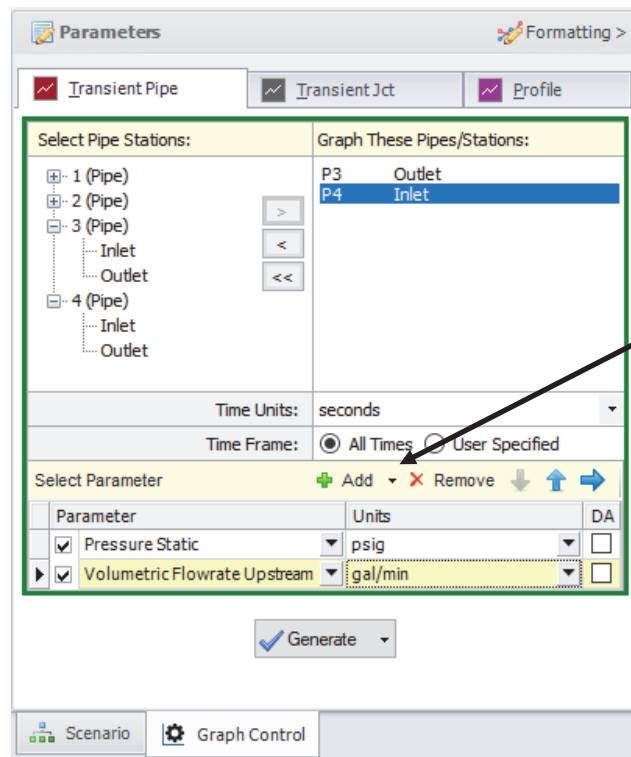

Figure 2.25 The Graph Control tab on the Quick Access Panel allows you to specify the graph parameters you want to graph in the Parameters/Formatting area
- **In order to add the stacked graph under the static pressure graph showing the volumetric flowrate at the inlet and outlet of Valve J4, click the “Add” button,** which has the green “+” icon next to “Select Parameter”. A new row under the Parameter definition area will appear (See Figure 2.25).
Figure 2.25 shows the input in the Parameters/ Formatting area on the Quick Access Panel.